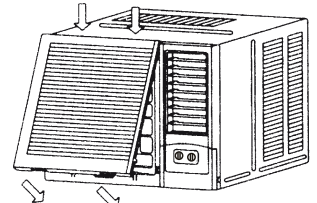

Fig. 10
- 2 Hang the front panel on the frame's buckle, then press the front panel into the frame's slot until hear a click. (see Fig.10)